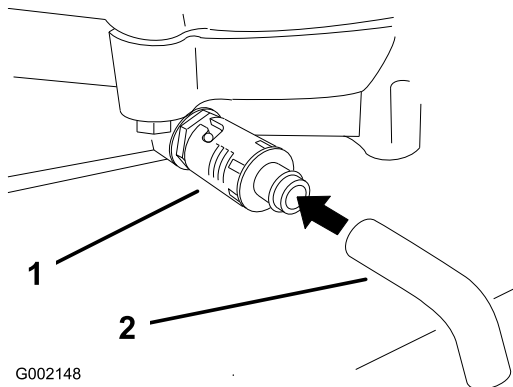

Figure 31
4. Place a pan below the drain. Rotate the oil-drain valve to allow the oil to drain (Figure 31).